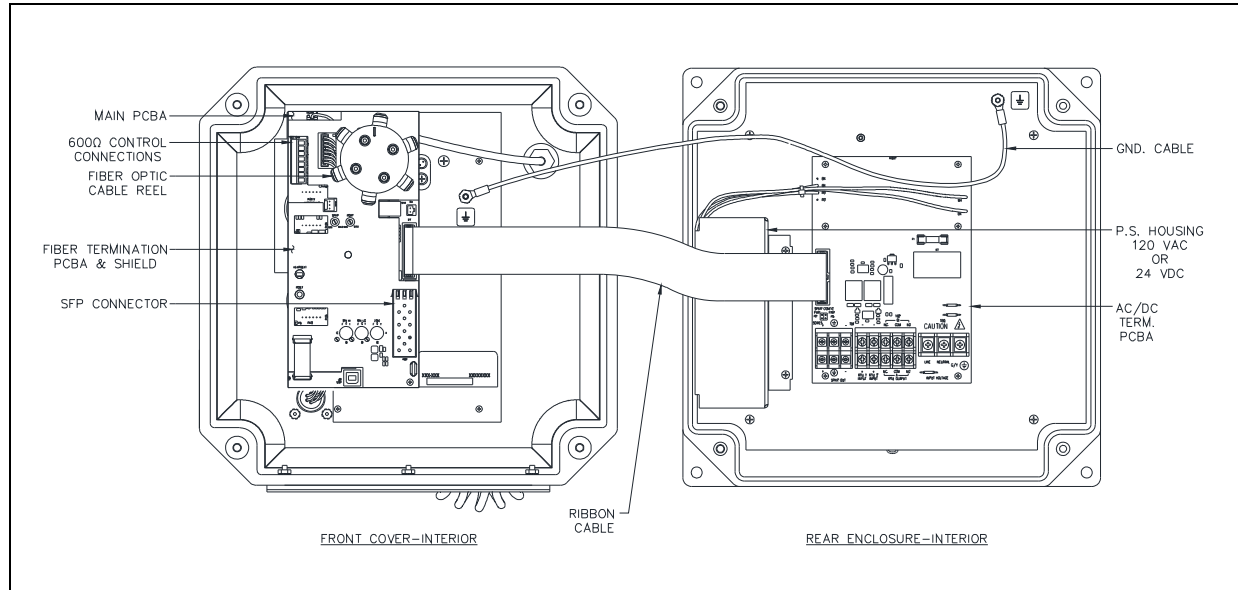

Figure 3. SP2 Zone 2/22 Fiber Station—Interior View
2. Secure it to the ground terminal located in the upper right corner at the back of the rear enclosure (see Figure 3).